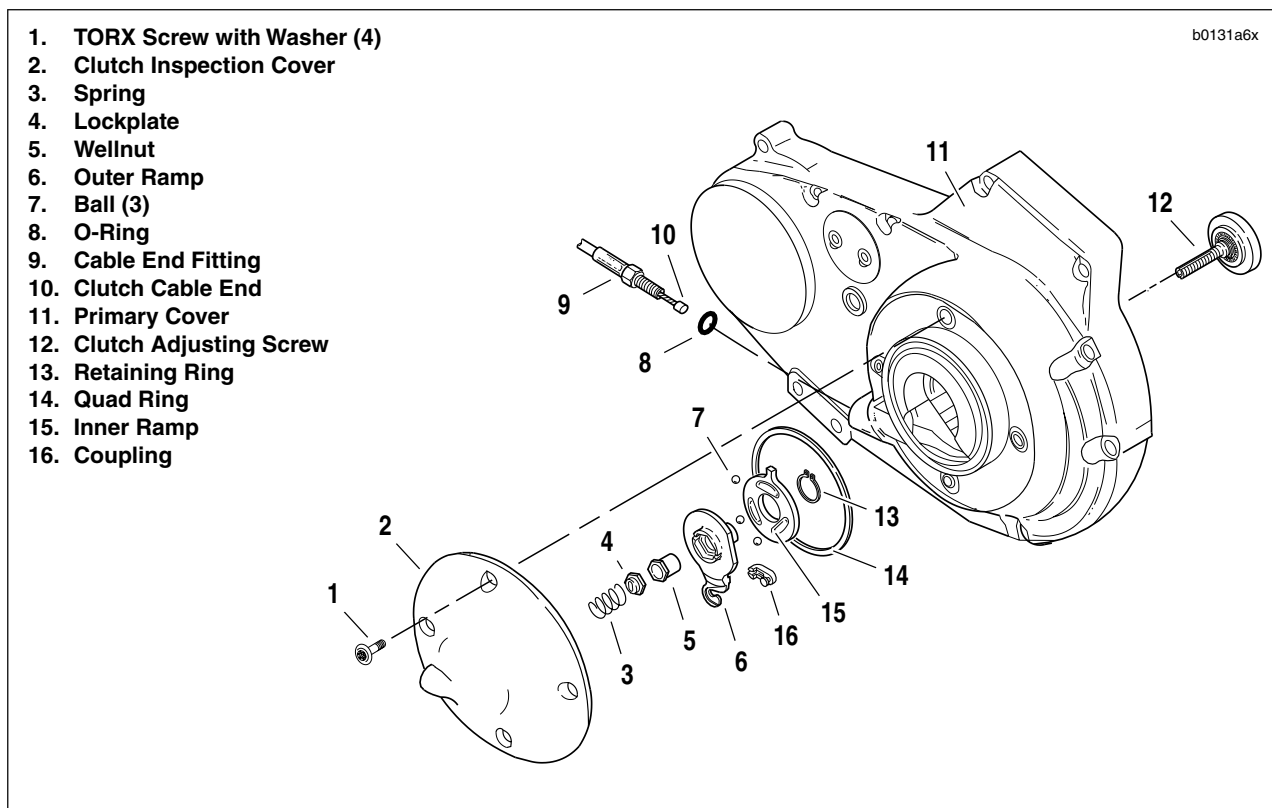

Figure 6-10. Clutch Release Mechanism
3. See Figure 6-10. Remove four TORX screws with washers (1) and clutch inspection cover (2).
4. Slide spring (3) with attached screw lockplate (4) from flats of adjusting screw (12).
5. Turn adjusting screw (12) clockwise to release ramp and coupling mechanism. As the adjusting screw is turned, ramp assembly moves forward. Unscrew nut (5) from end of adjusting screw.
6. Remove hook of ramp from cable end coupling (16). Remove cable end (10) from slot in coupling.
7. Remove and discard retaining ring (13) from ramp assembly to separate inner and outer halves. Remove three balls (7) from ramp sockets.
2. See Figure 6-10. Inspect three balls (7) of release mechanism and ball socket surfaces of inner and outer ramps for wear, pitting, surface breakdown and other damage. Replace parts as necessary.
3. Check hub fit of inner (15) and outer (6) ramps. Replace ramps if excessively worn.